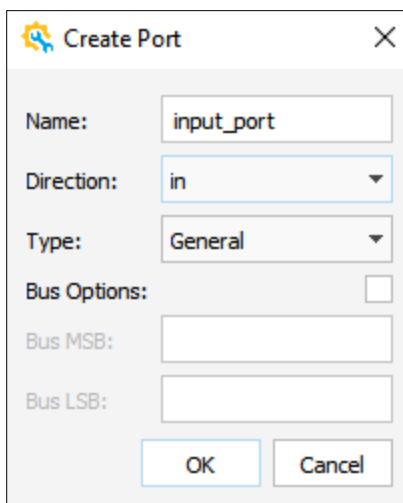

Figure 2.98. Create Port Dialog Box
- Right-click in the Schematic view and choose **Create Port**. The Create Port dialog box pops up (Figure 2.98).